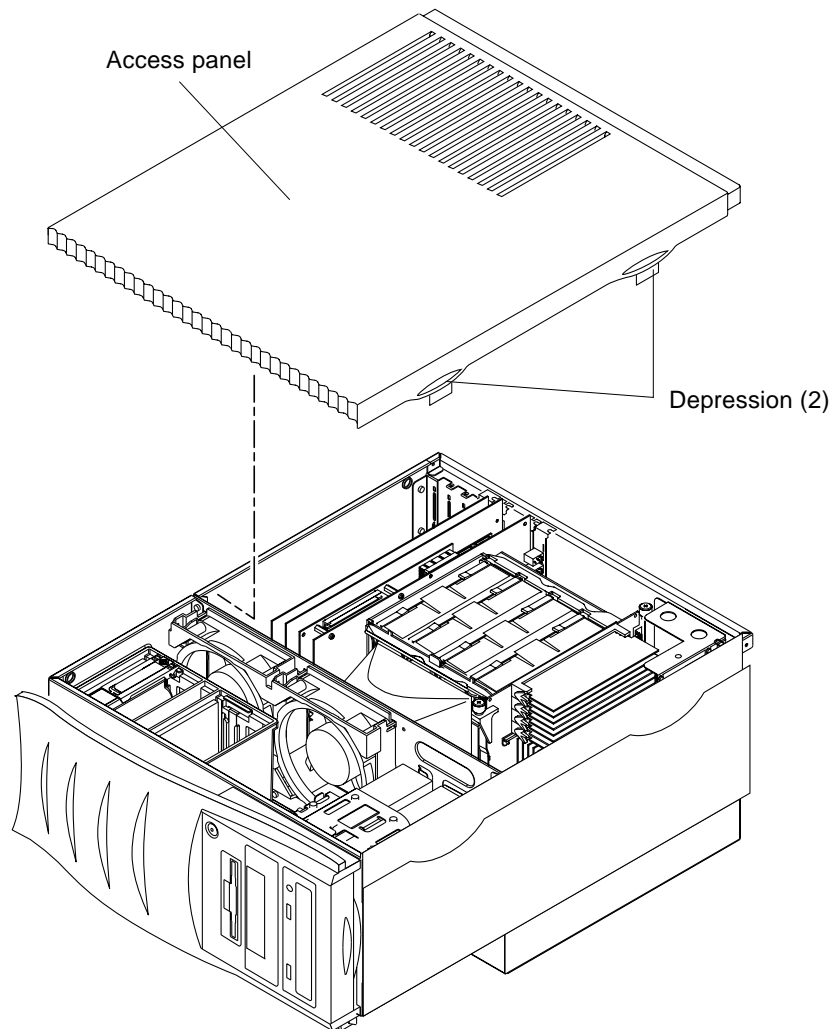

FIGURE 2-3 Removing/Replacing the Access Panel
8. Remove the access panel as follows (FIGURE 2-3):
Replace the access panel and power on the system as follows (FIGURE 2-3):